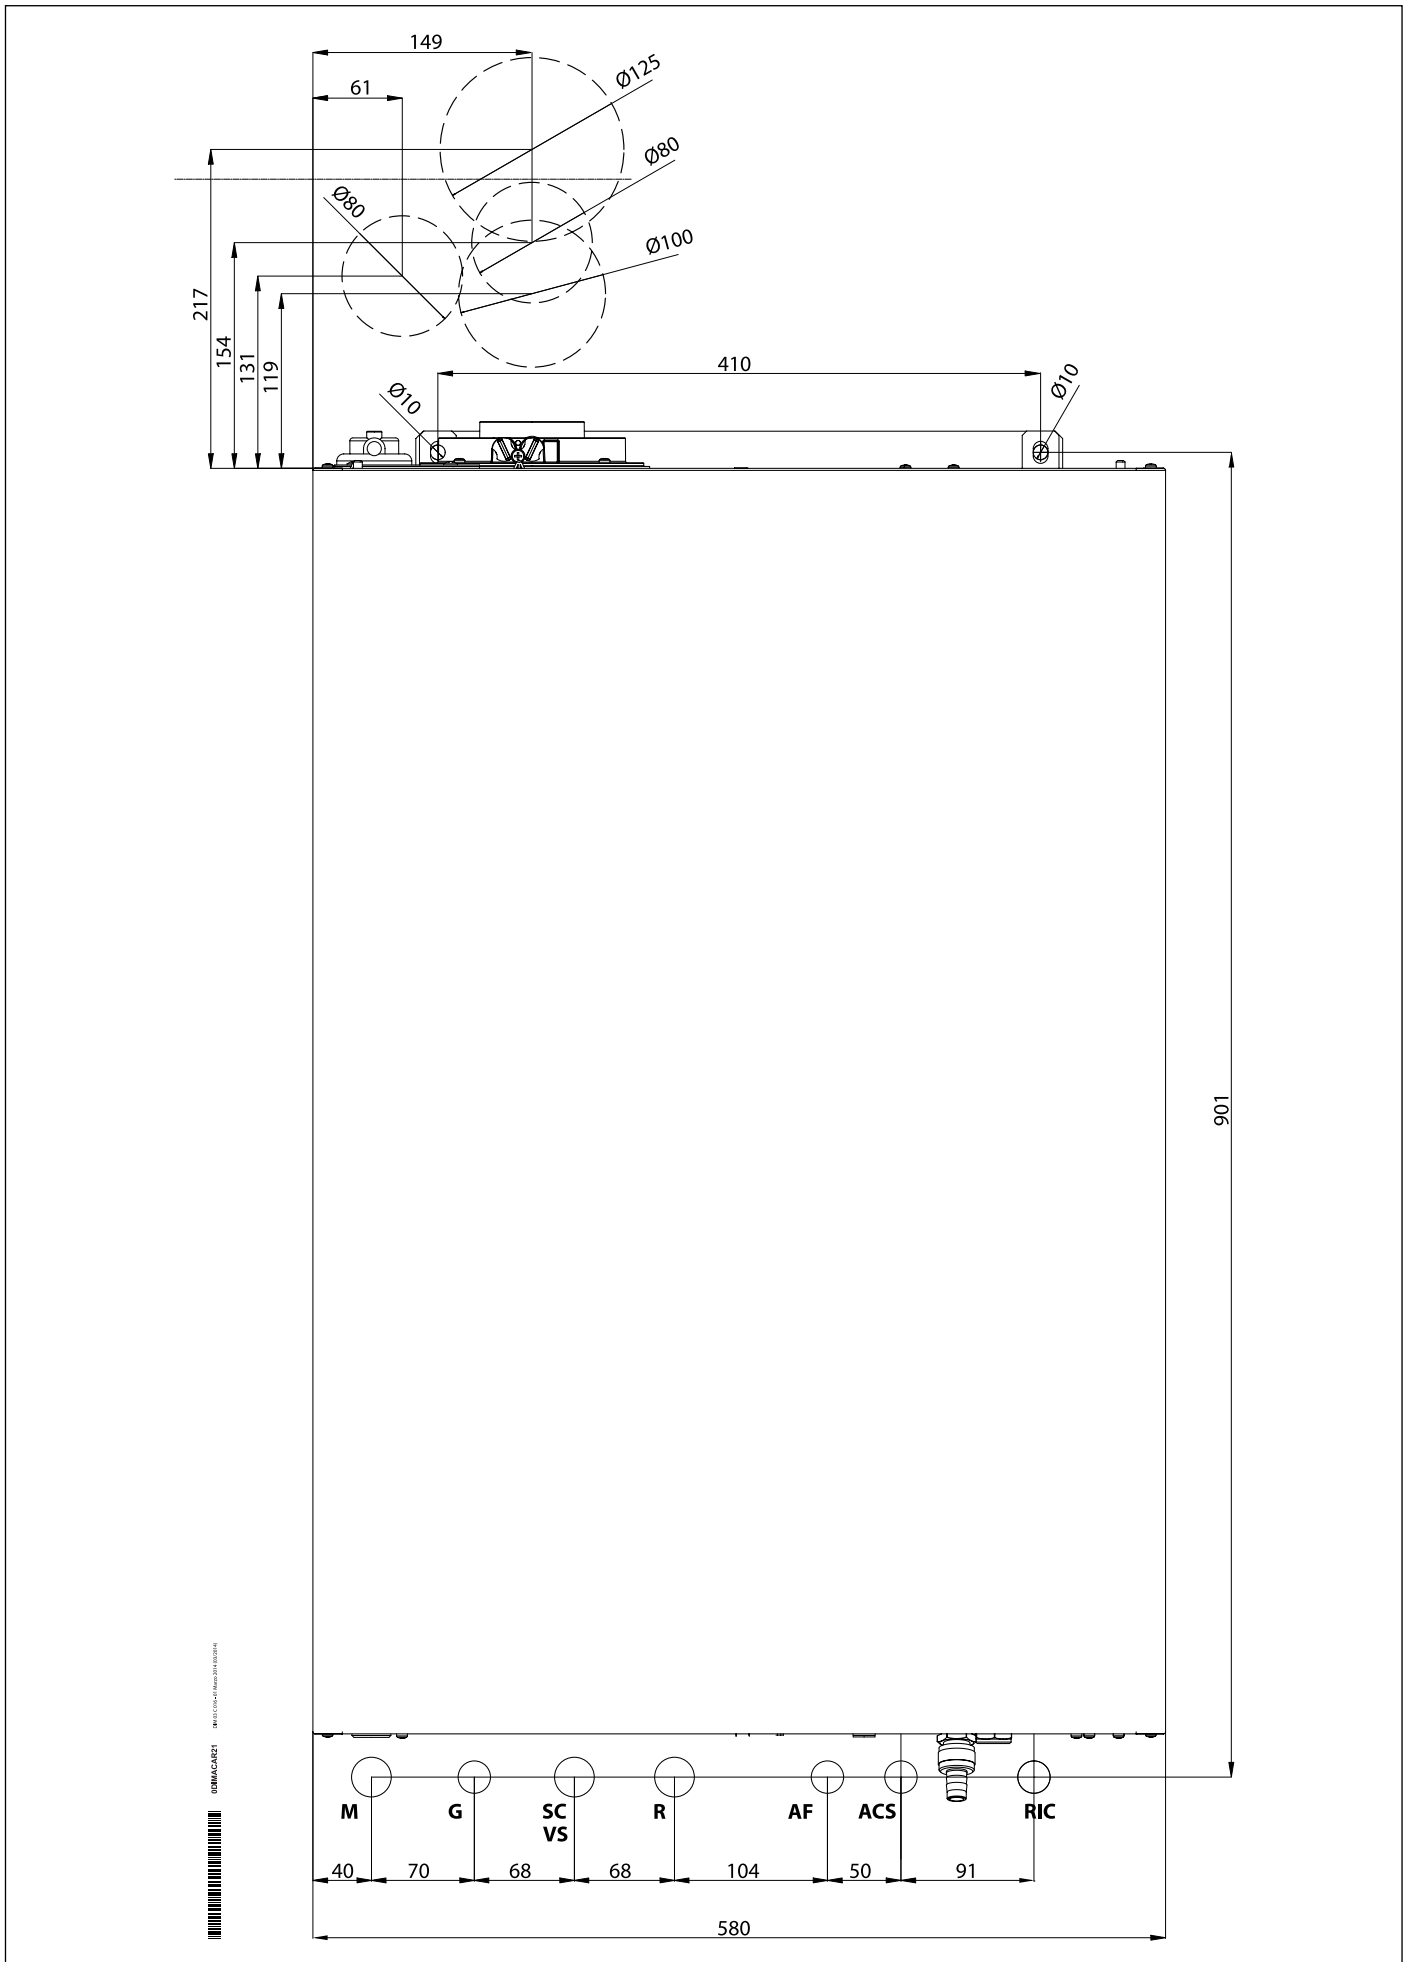

Fig. 6 Paper template
- » the template for mounting the boiler on a wall (see Fig. 6 Paper template).
Each boiler is supplied with a paper template, found inside the packaging (see Fig. 6 Paper template).
- Affix the template (see Fig. 6 Paper template) on the wall.